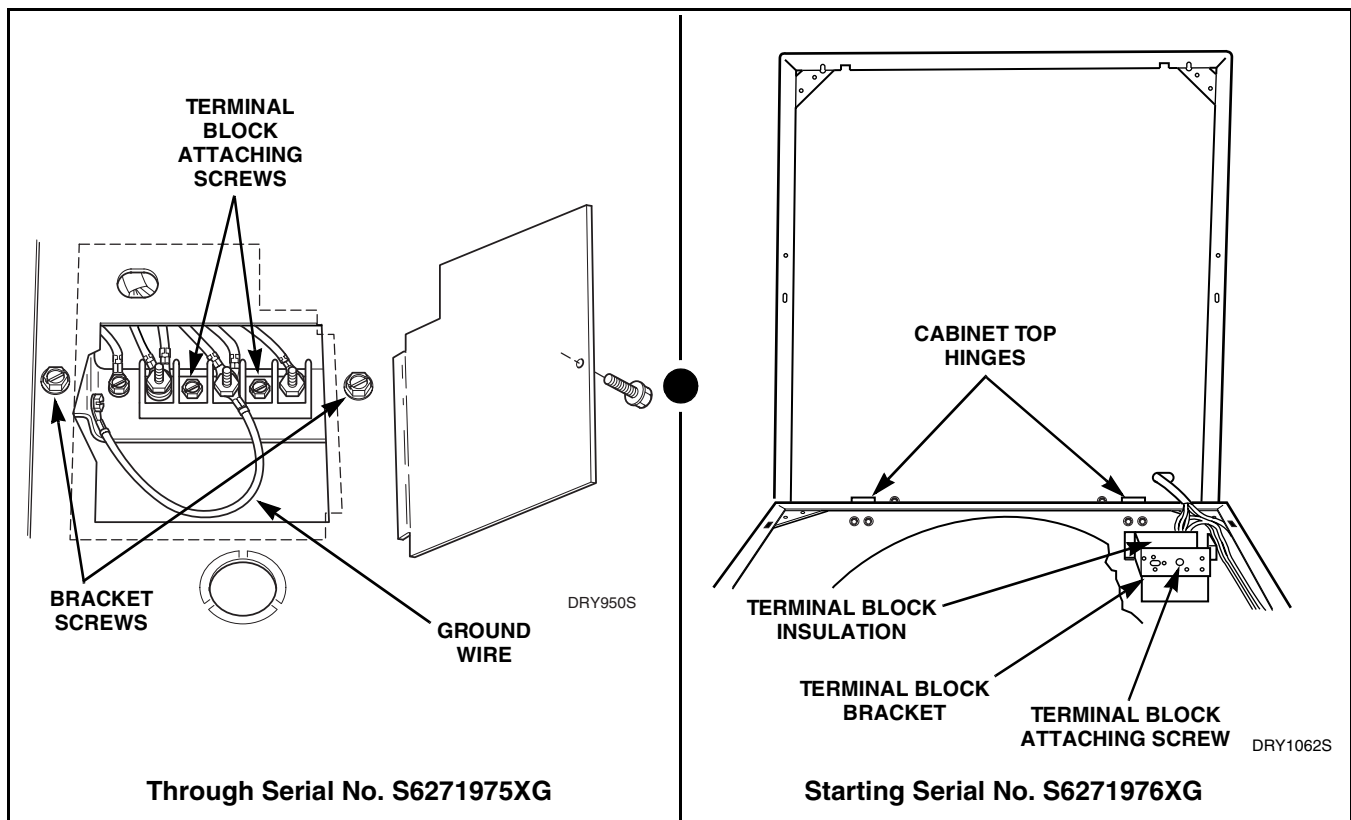

Figure 36
- (5) Lift cabinet top to a vertical position by hinging it on the rear hold-down brackets. Refer to *Figure 36*.
- (7) Remove screw holding terminal block to bracket. Refer to *Figure 36*.
- h. Lift cabinet top to a vertical position by hinging it on the rear hold-down brackets. Refer to *Figure 36*.
- i. Carefully withdraw wire harness through hole in cabinet top and lift the cabinet top assembly off the hold-down brackets and set to the side. Refer to *Figure 36*.
- s. Remove two screws from each rear cabinet top hold-down bracket (hinges). Refer to *Figure 36*.
- u. Remove two screws holding terminal block bracket to cabinet. Refer to *Figure 36*.